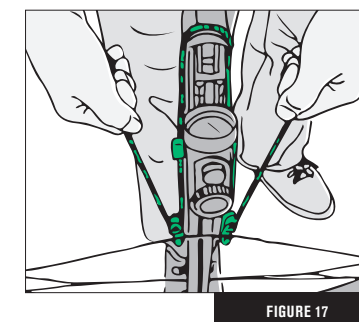

FIGURE 17
5. Pull both t-handles simultaneously, smoothly drawing the crossbow string back under the bolt retention spring and into the string opening of the trigger mechanism. (Tension will keep the cocking hooks against the rail if done properly (Fig. 17).